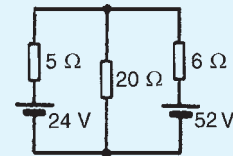

Figure 13.28
4. Use the superposition theorem to determine the current in each branch of the arrangement shown in Fig. 13.28